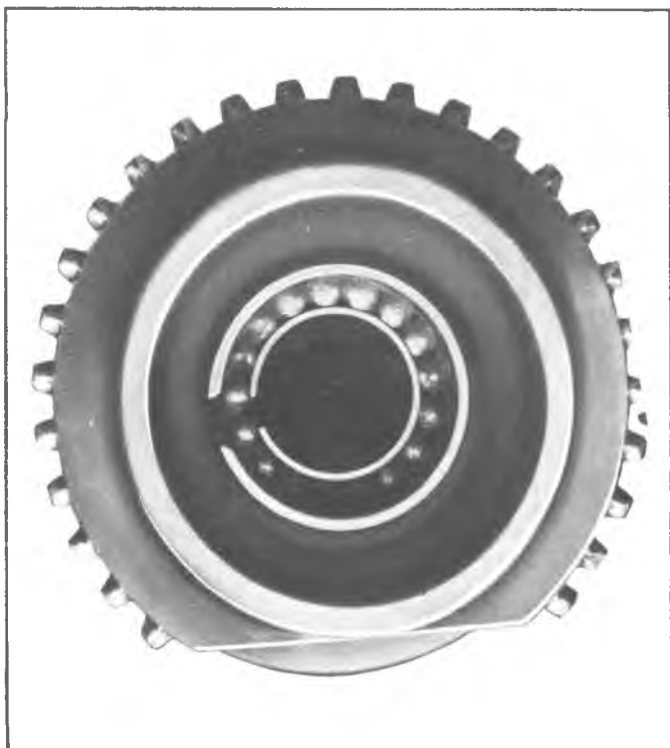

Fig. 12Q--Roller Bearing Retainer
5. Apply a small amount of grease to bearing surface in shaft recess, install transmission mainshaft pilot roller bearings (17) and install roller bearing retainer (fig. 12Q).